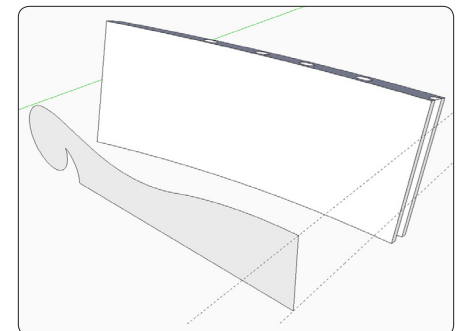

Figure 24. Give the top view ample height and angle it to match the angle of the chair. Position the other view in front of the top view.
Step 2 Use the Push/Pull Tool to make the top view shape about 4 in. tall. The exact height isn't important, as long as it's greater than the height of the front view. Rotate this shape to coincide with the angle of the reclining back of the chair. Then position guide lines as shown in Figure 24 to help push the front shape through the canted rail.